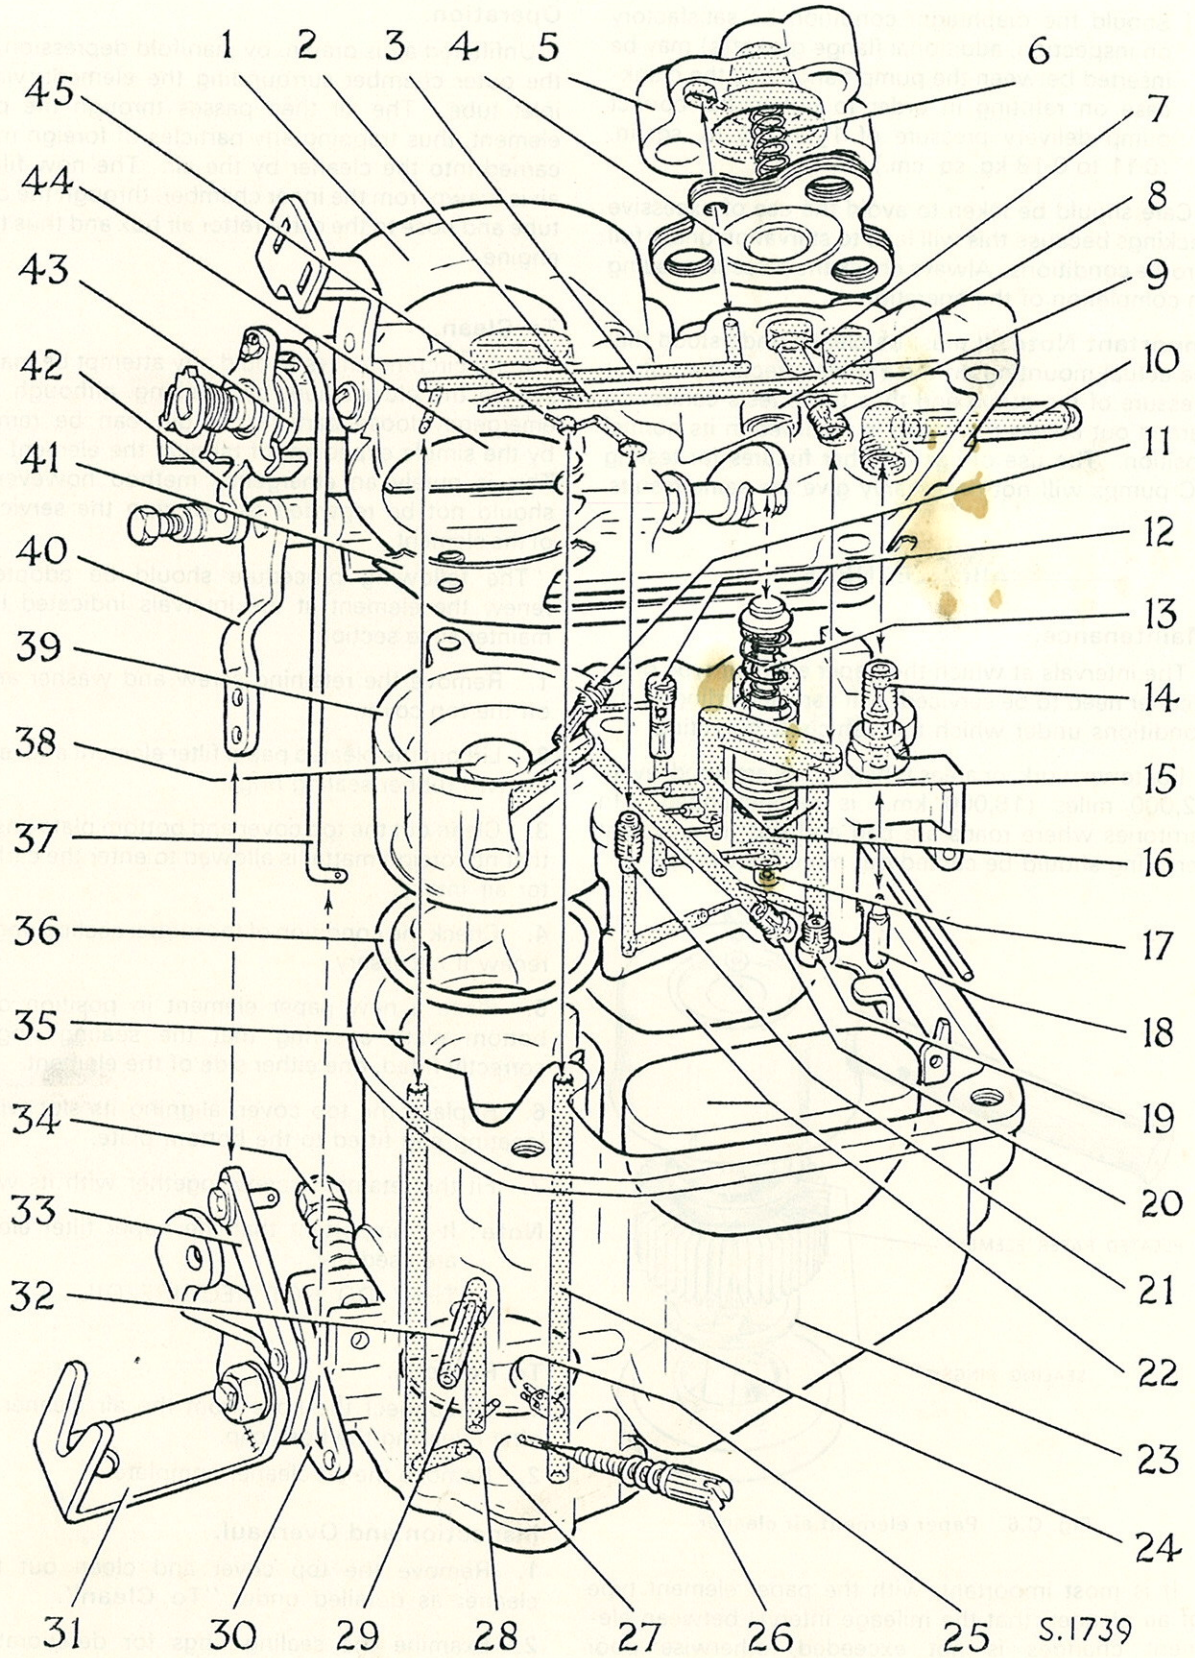

Fig. C.7. Carburettor—external and internal details, jets and drillings
#### KEY TO FIG. C.7
- Remove the carburettor top body (1), emulsion block (39) and slow running jet (21). Blow through the jet and passage ways as shown in Fig. C.7. with clean compressed air. The long passage way, in the main body of the carburettor can be blown through without removing the carburettor from the inlet manifold, first from below through the volume control screw hole, after removing the volume control screw and blocking the upper end of the passage way with a finger, then from the top with the volume control screw replaced and rotated on to its seat. This ensures that the slow running outlet, and two progression holes are cleared. Check that the volume control screw point is not damaged. Adjust the volume control screw (26) so that it just seats by finger not screwdriver rotation and then rotate it back by  $1\frac{1}{4}$  turns.
- Check that the volume control screw (26) and slow running speed adjustment screw (34) springs exert enough pressure under the screw heads to prevent them from rotating through the effects of engine vibration.